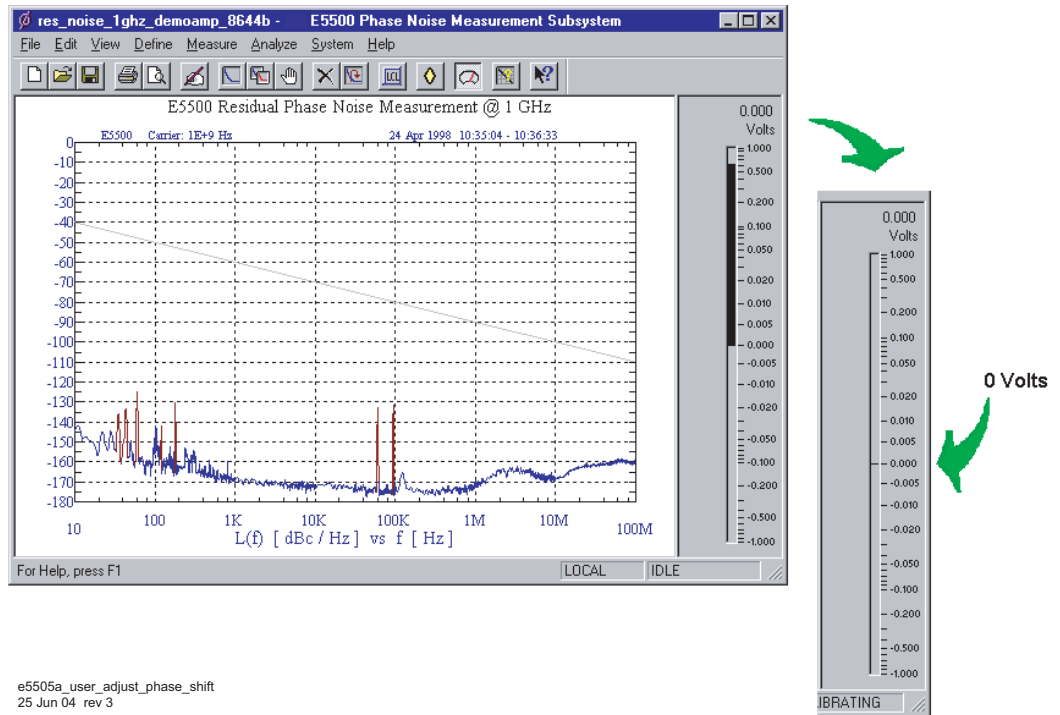

Figure 176 Adjust phase shifter until meter indicates 0 volts
- 6 The system software will then prompt you to set the phase noise software's meter to quadrature by adjusting the phase shifter until the meter indicates 0 volts, then press Continue. See Figure 176 on page 240.